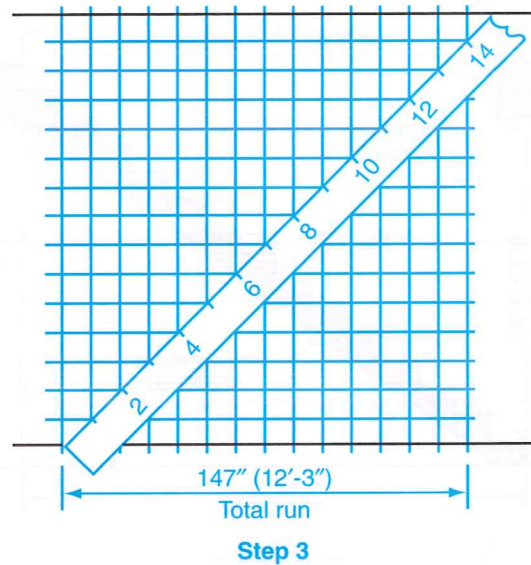

Figure 16-22. Lay out the total run and divide it into the required number of treads. The number of treads in this example is 14.
The total run, which is 147", is determined by multiplying the tread width (10-1/2") by the number of treads (14). Figure 16-22 shows how the total run and tread widths are drawn. In CADD, use the divide command to determine the locations of the 14 risers.